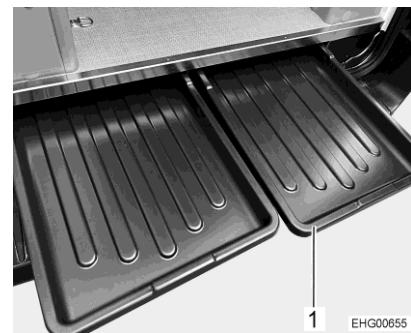

Fig. 27 Double floor pull-outs (special equipment)
- Pull out one of the pull-outs (Fig. 27,1) in the rear area of the vehicle.